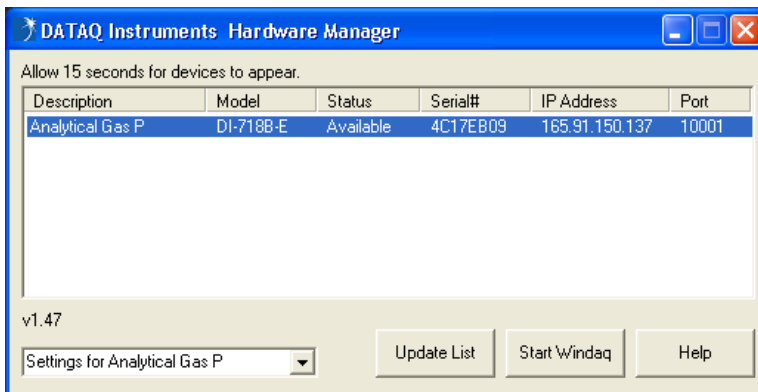

Figure 11. DataQ Instrument Hardware Manager.
2. Once a logger has been detected (*Figure 11*), select the **Start WinDaq** button.